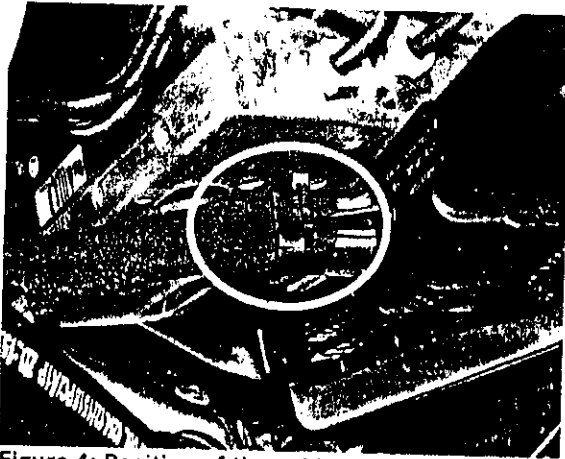

Figure 4: Position of the cable tie
6. Remove cable tie at transition of SBC connector housing to SBC wiring harness (Figure 4).